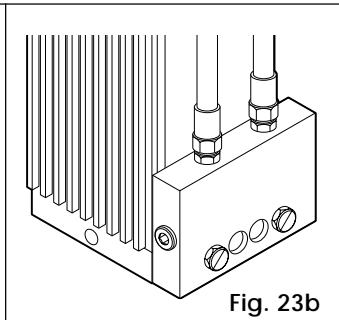

Fig. 23b
**VÁLVULA ANTIVANDALISMO (fig. 23b)**